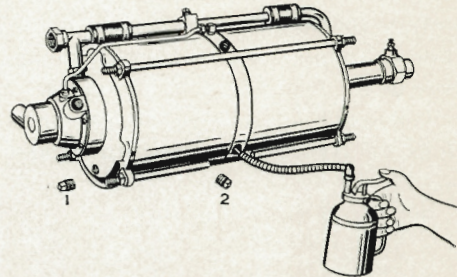

Fig. 3. Tandem Piston with Lubrication Ports.
See Fig. 3*
To lubricate tandem piston Hydrovacs with lubrication plugs, remove pipe plugs (1) and (2), See Figure 3, and inject vacuum cylinder oil through each port up to the point where the oil just begins to run out of the port. Replace the pipe plugs and securely tighten plugs.